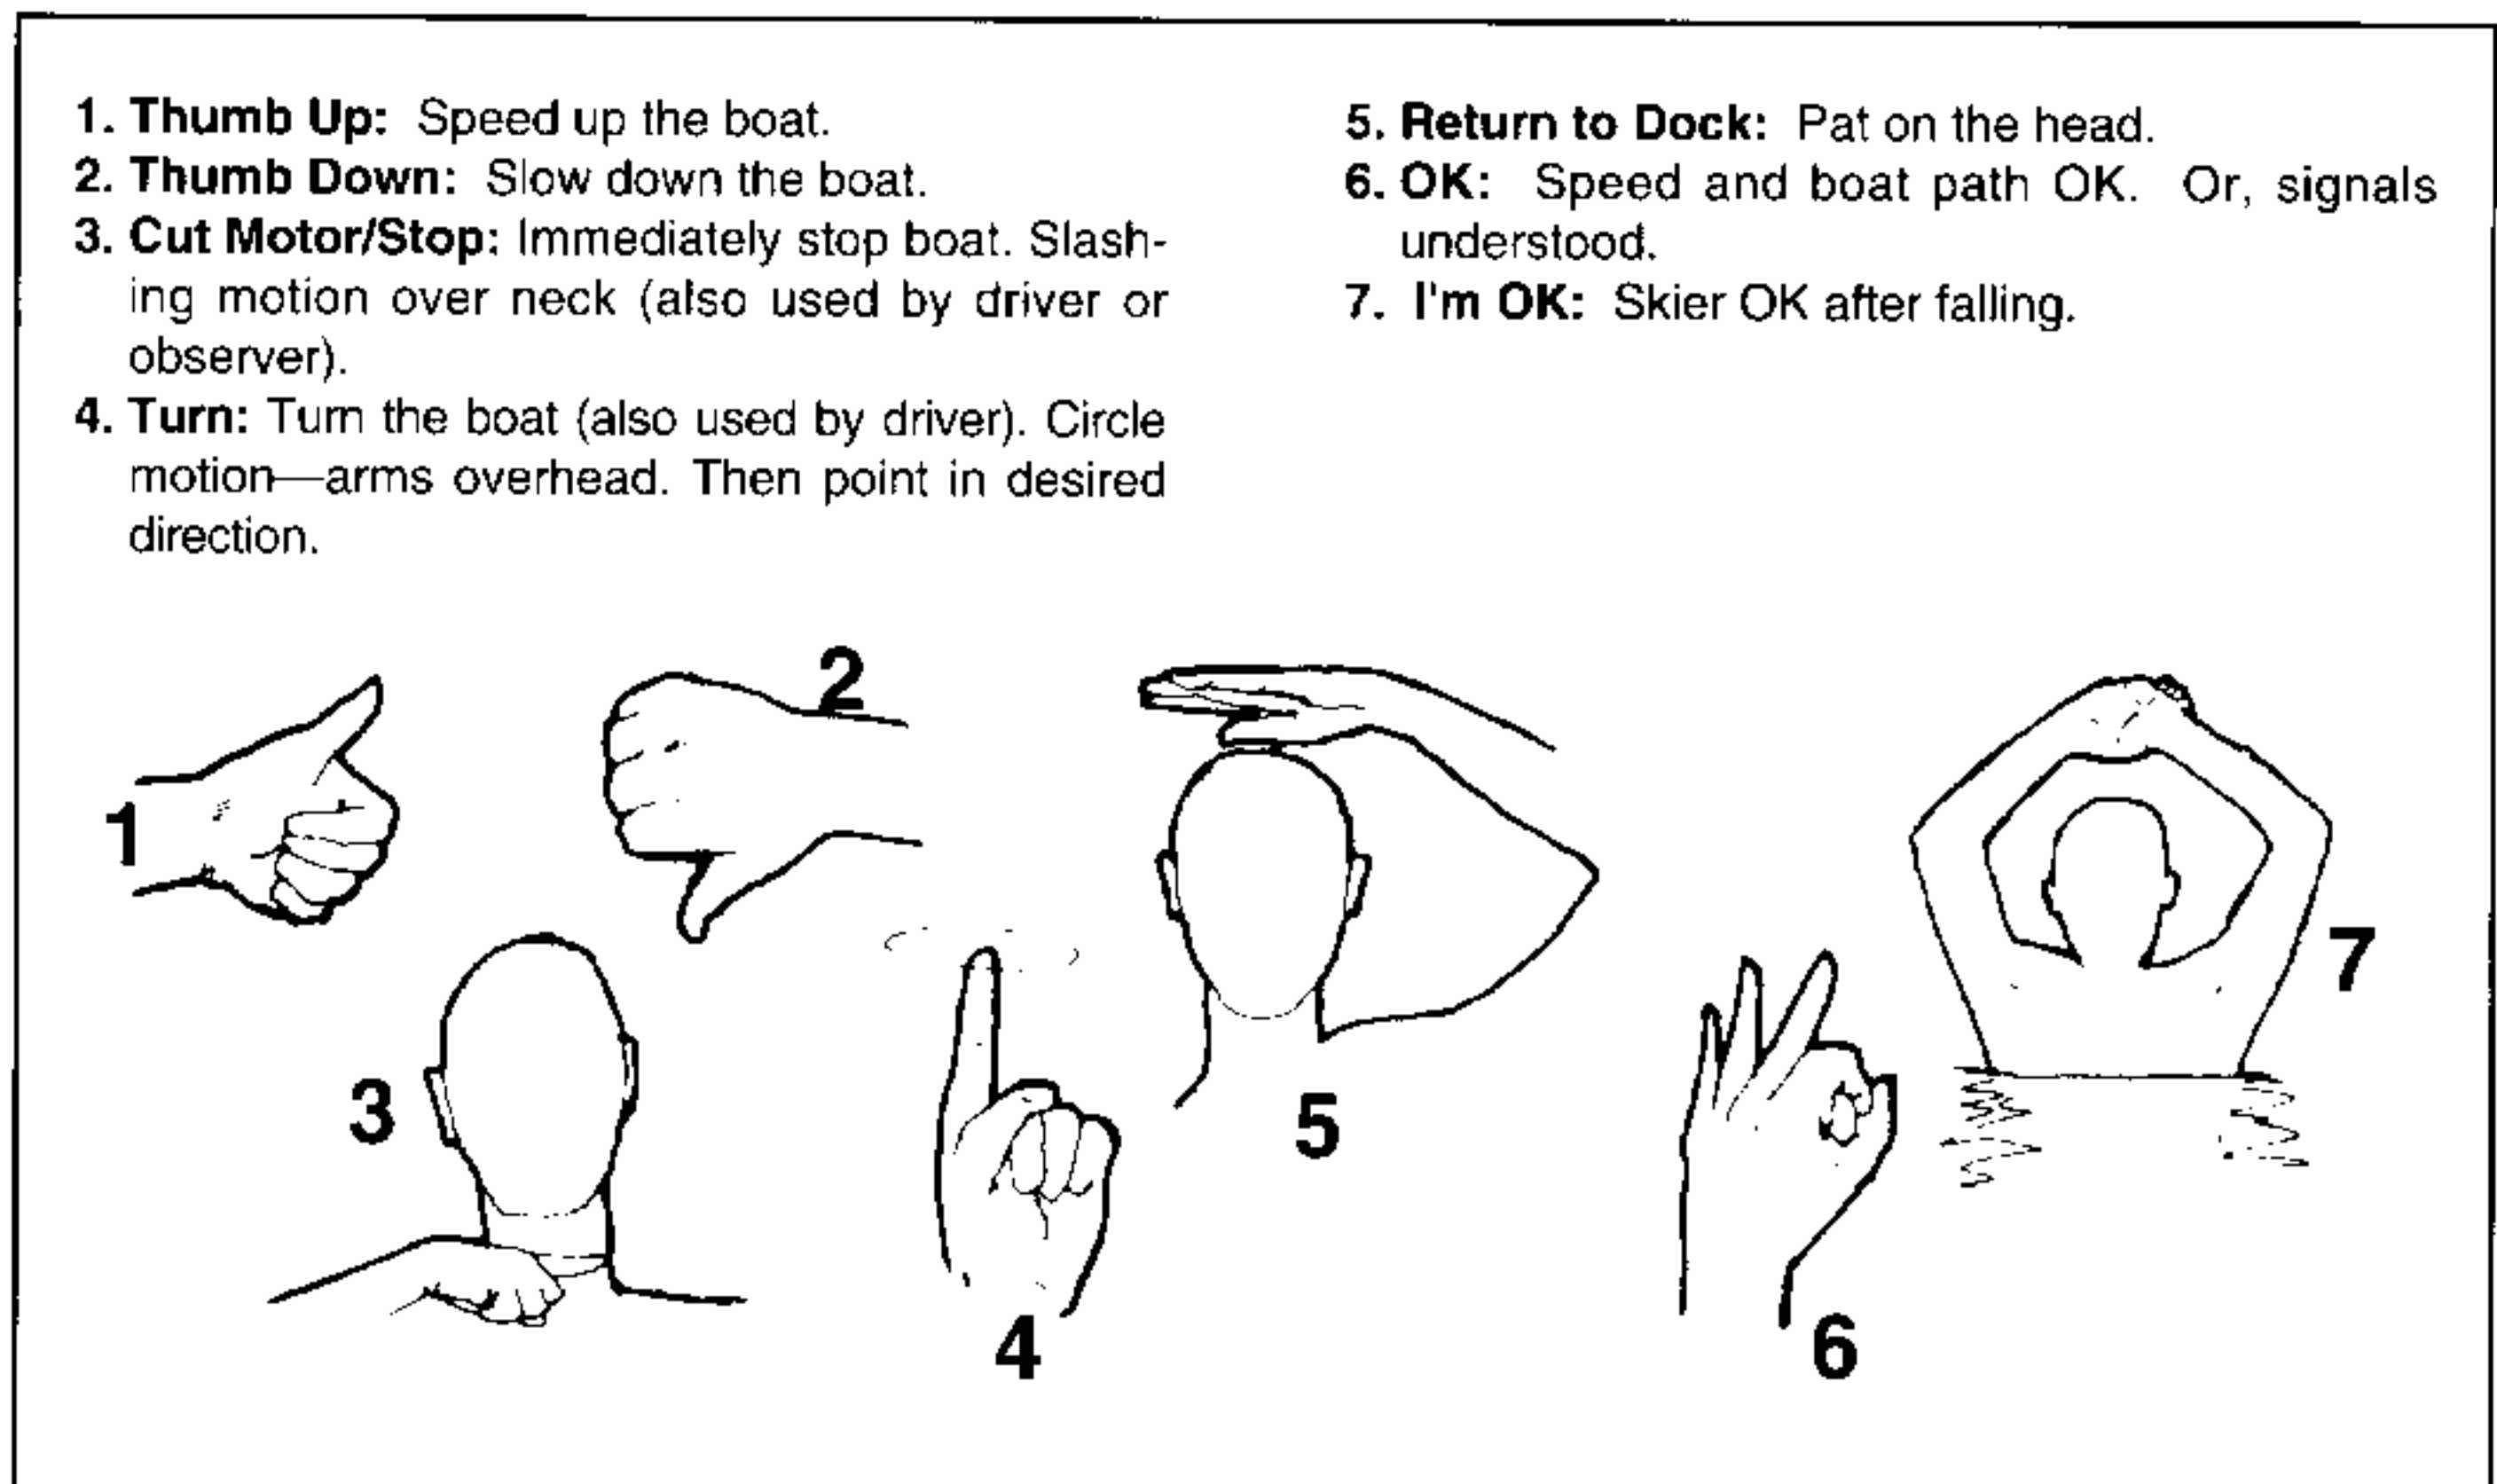

FIGURE 2.13 SKIER'S HAND SIGNALS
3. Have a second person aboard to observe the skier and inform the driver about the skier's hand signals (**Figure 2.13**). The driver must give full attention to operating the boat and the waters ahead.